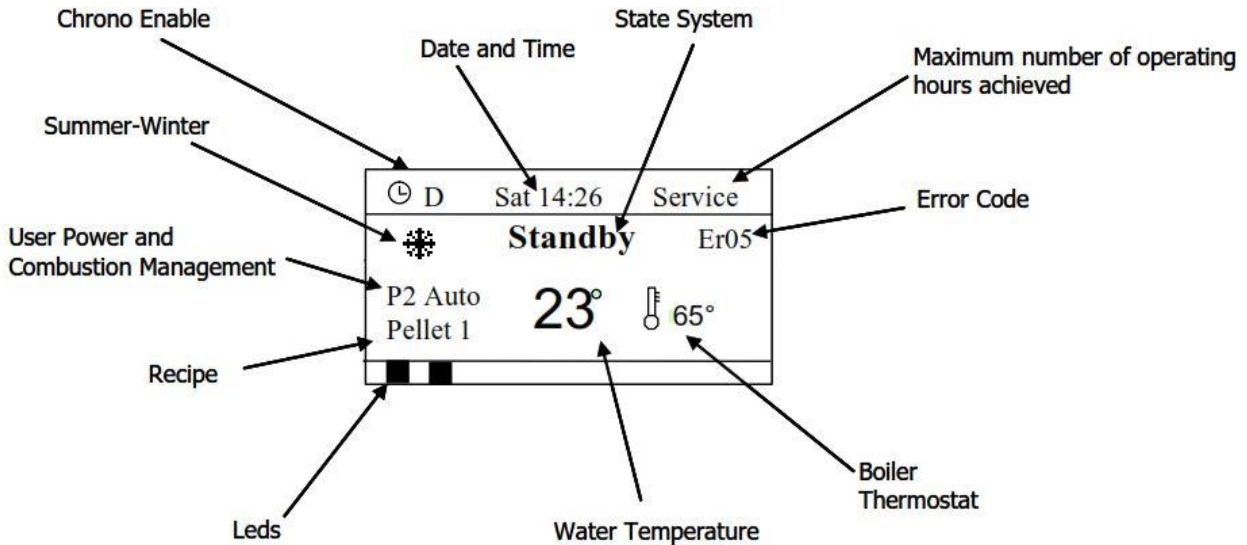

Figure 14. View of LCD screen on display
Go back to the basic view on the display (**Figure 14**), by pressing the key **P1** .
- **STEP 4:** Initiate feeding system as the first grains of the pellet might fall into the combustion cup / space. (*This procedure can be applied only when the Automation system is in OFF mode (Figure 14 : state of regime)*)